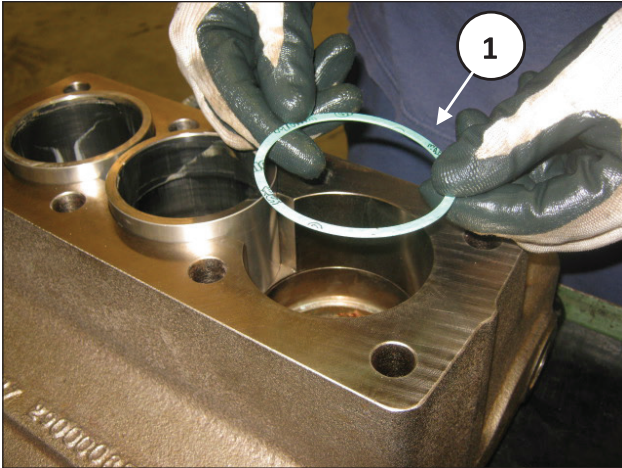
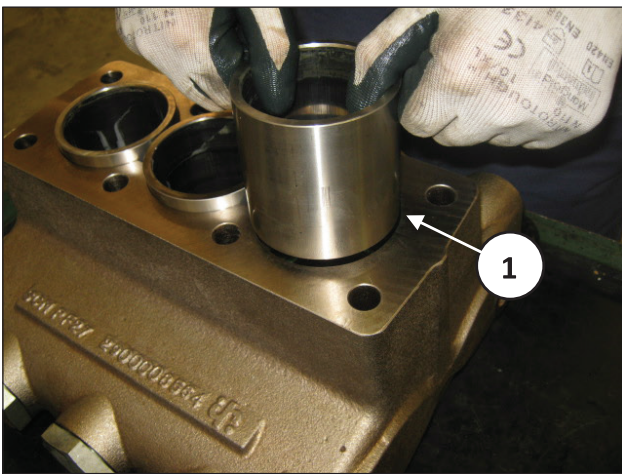

Fig. 139
Fig. 140
Insert the seals (pos. ①, Fig. 139) and the cylinders (pos. ①, Fig. 140) in the cylinder seat on the head.